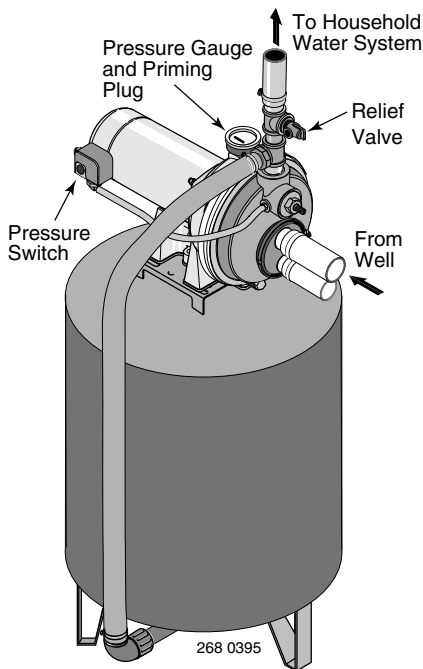

Figure 12: Pre-charged Tank Connections
PRE-CHARGE TANK CONNECTION (Figure 12)
1. Install a close nipple and a tee in the pump discharge port (see Figure 12). The pipe size must be at least as large as the discharge port. Run a pipe or reinforced hose from one arm of the tee to the port on the pre-charged tank.